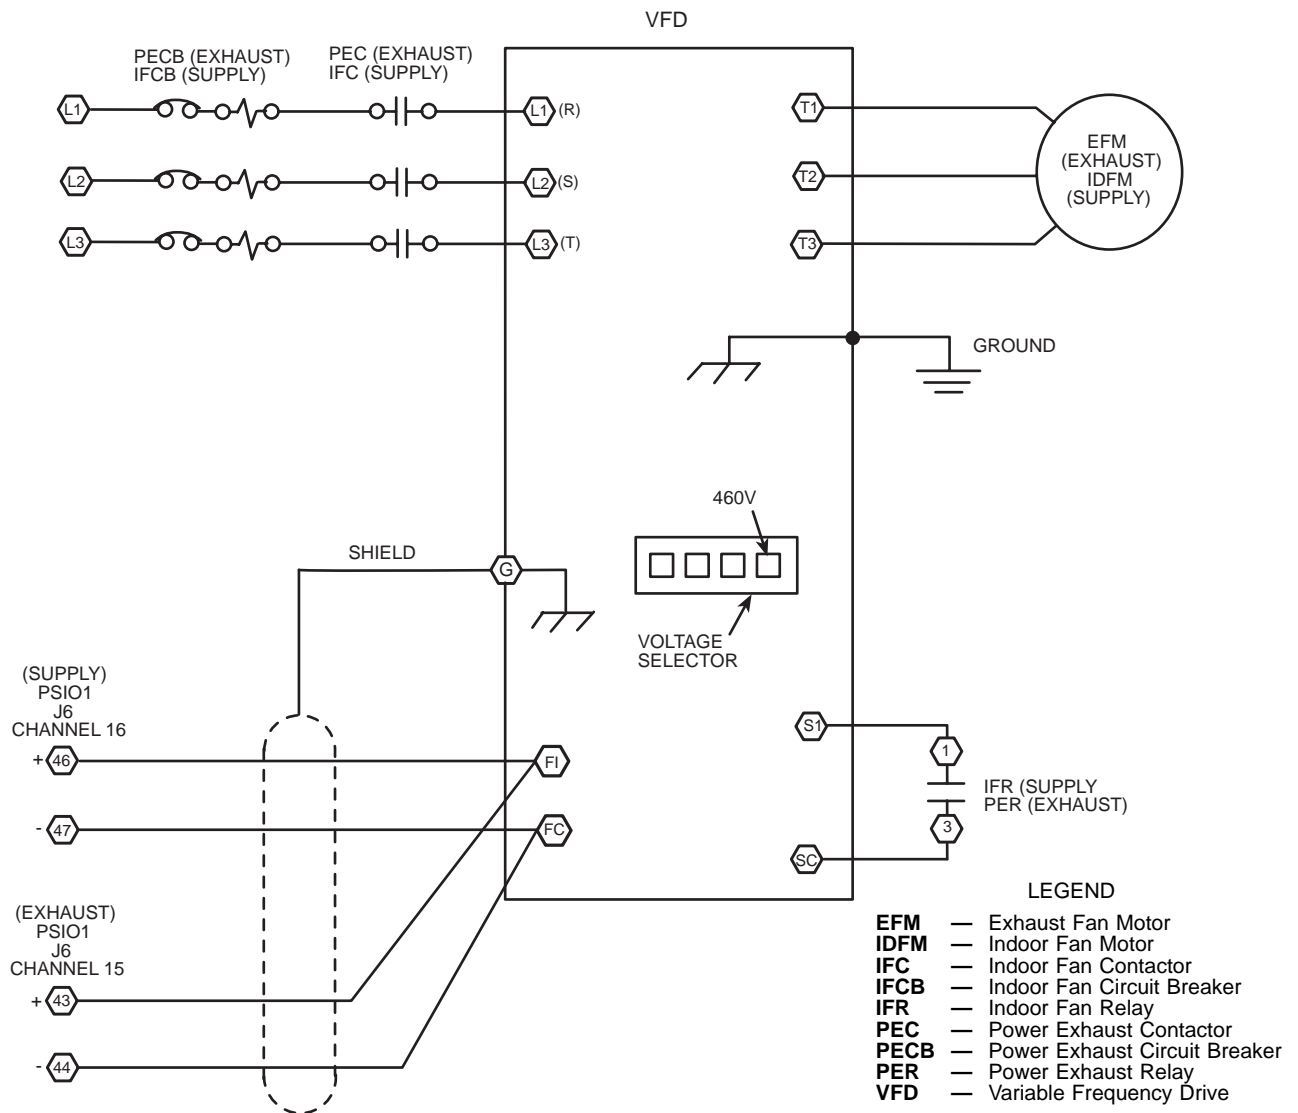

Fig. 29 — Optional VFD — Wiring Connections
- variable frequency drive (VFD) (Fig. 29)